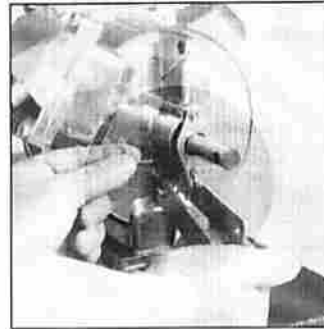

Figure 1
2. To install the links on the pump, insert a long clevis pin through the link ends and the pump's link holes. Secure with a small cotter pin. (Figure 1)